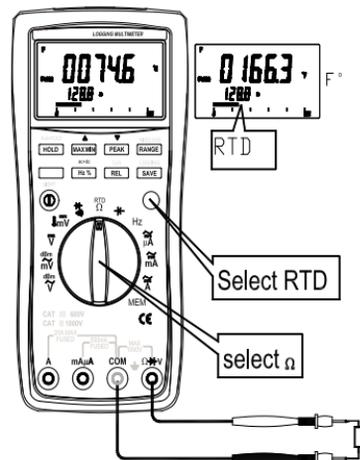

Figure 3-6. RTD Measurement
*Measuring RTD(See Figure 3-6)*